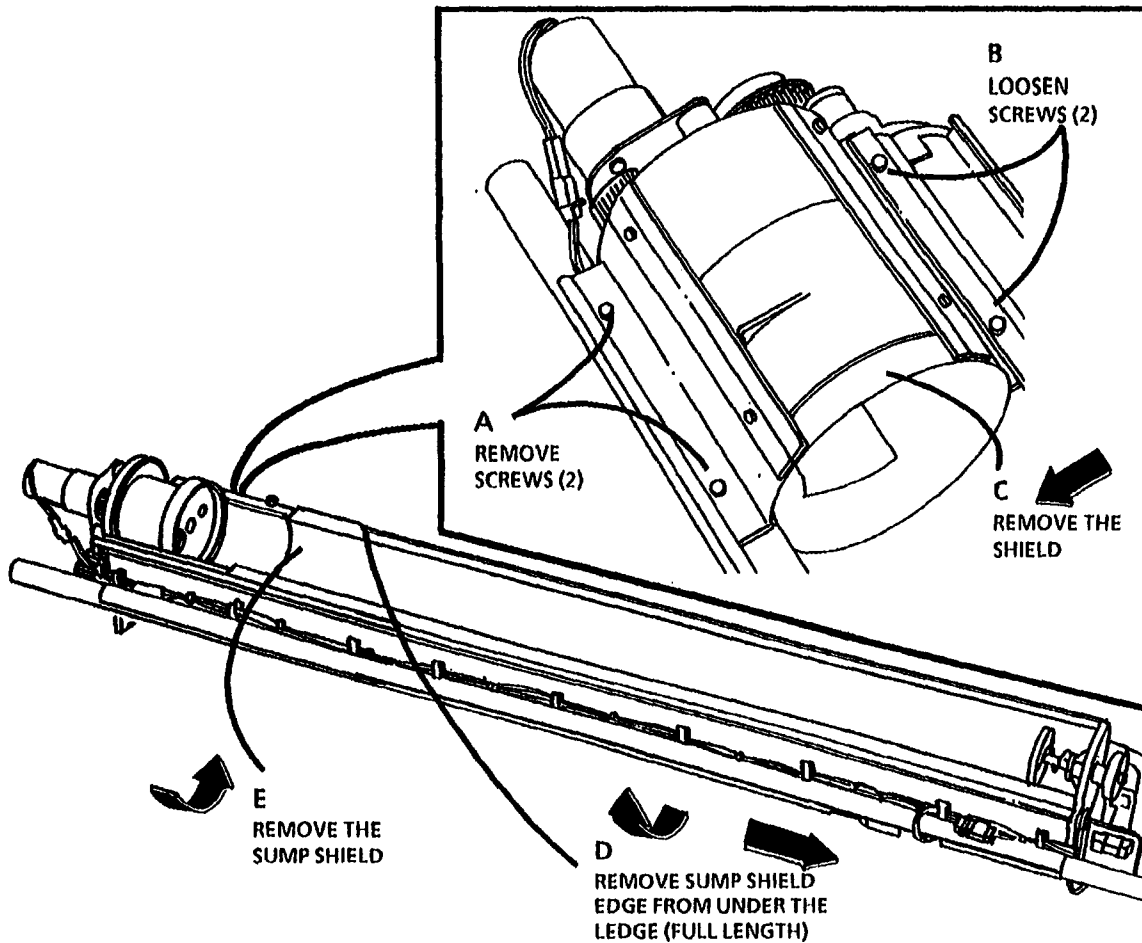

Figure 1. Remove the Sump Shield from the Developer Module
4. (Figure 1): Remove the Sump Shield from the Developer Module.